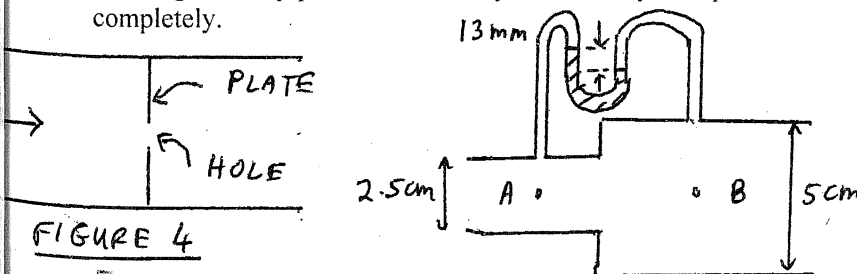

FIGURE 4
4) A student wants to make an instrument to measure the discharge in a horizontal pipeline of circular cross-section. The student places a thin plate across the pipeline. The plate has a small hole – of circular cross section – at its centre, as shown in Figure 4. The student plans to connect a U-tube mercury manometer to two points in the pipeline. She then plans to use a theoretical equation to relate the level difference in the manometer to the discharge in the pipeline.
- b) Show, using a neat diagram, the difference in the levels of the U-tube mercury manometer when the flow is in the direction shown in Figure 4.